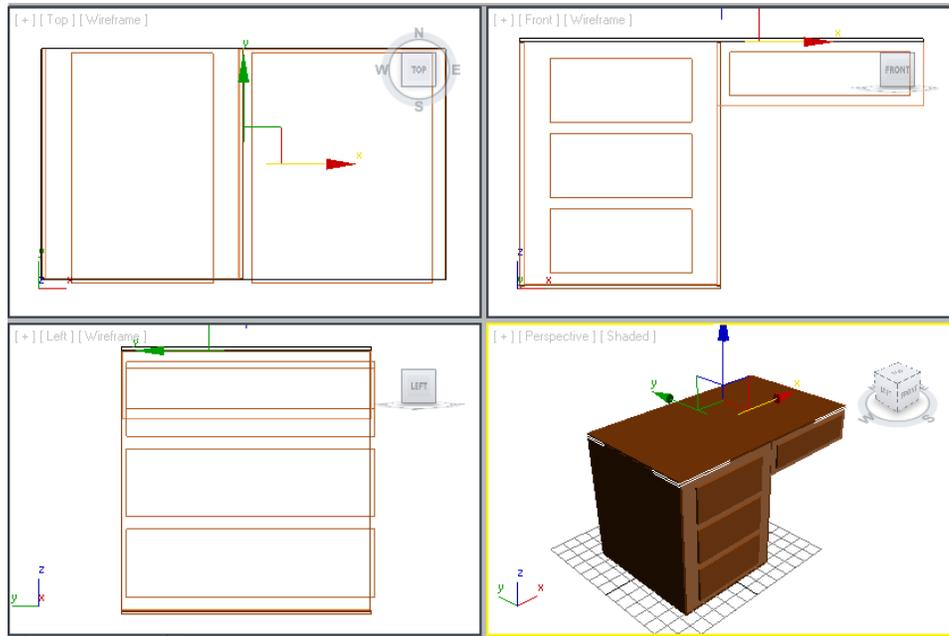

Figure 2-49 Alignment of the upper face with the top of the table
7. Align the *upper face* with the top of the table, as shown in Figure 2-49.